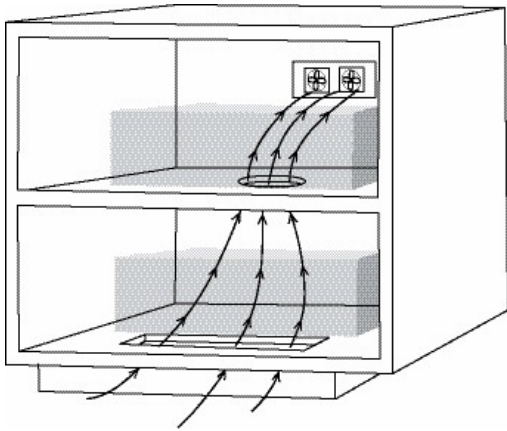

Fig. 4
- Is there a minimum of 2" of clearance between the back of the enclosure and the wall, allowing rear panel mounting? See figures 4 & 5.